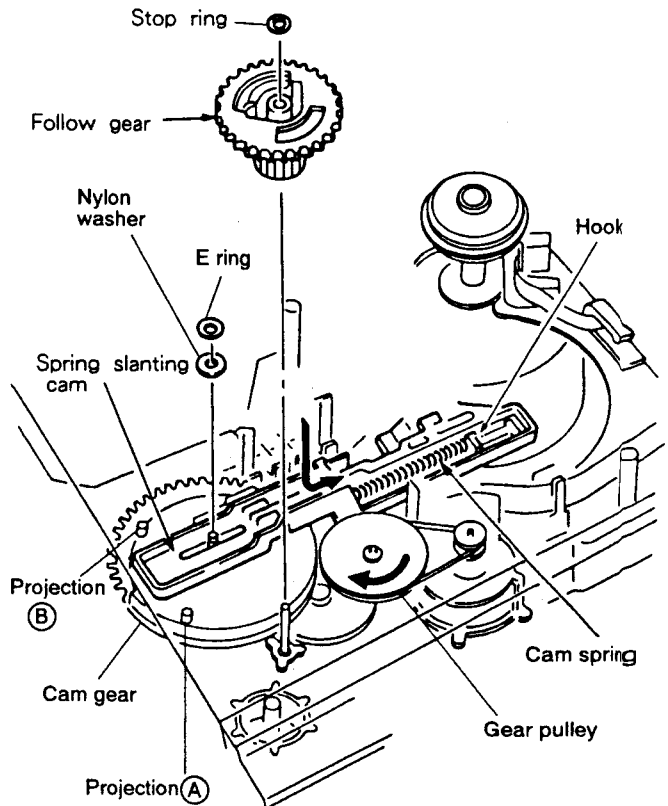

Fig. 13
- ③ Install a nylon washer and an E ring, and hang the cam spring on the hook. (Fig. 13)
Note: The cam gear and spring slanting cam as shown in Fig. 13 are positioned when installing the slide cam.
- ③ Install the stop ring. (Fig.13)
- ① Set the position of projection ① and ② of the cam gear by turning the gear pulley clockwise by hand as shown in Fig.13.